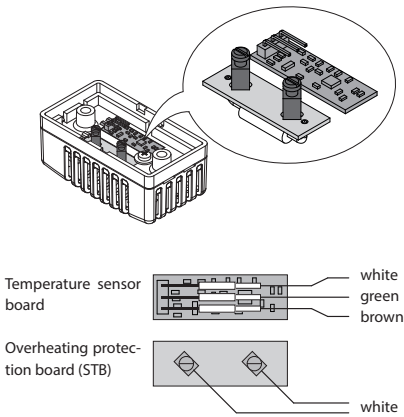

Fig. 16
4. Connect the sensor cable to the sensor board according to fig. 16. Make sure the connections are correct. Connect the limiter cable (2-core white cable) to the limiter board (STB).